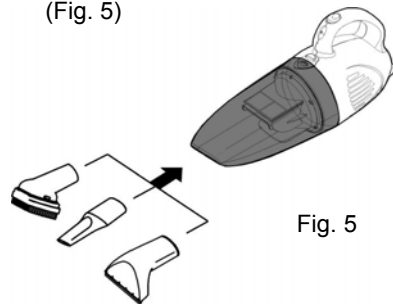

Fig. 5
3. To attach the convertible brush, crevice tool or squeegee nozzle to the wet/dry hand vacuum, push the attachment into the suction hole in the front of the dust container. (Fig. 5)